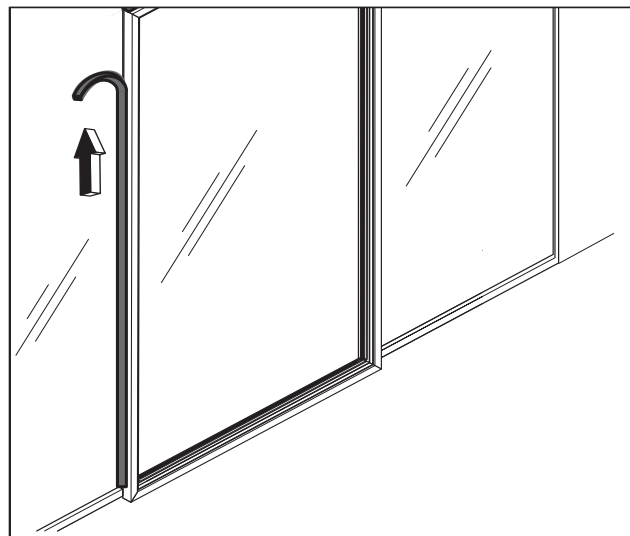

Fig. 26 Example: Mounting the foam rubber seal on left side
11. Press a suitably cut piece of foam rubber seal into the joints on the acoustic element frame (side and top) over the entire length. Make sure the foam rubber seal is flush with the acoustic element frame (Fig. 26).